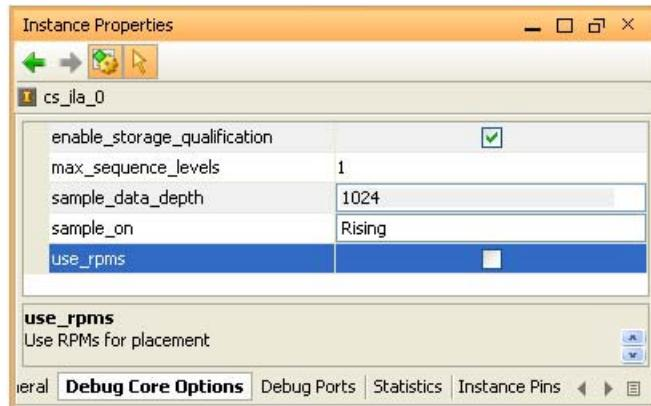

Figure 12-7: Instance Properties - Debug Core
2. In the Instance Properties view, select **Debug Core Options** to view and configure the debug core parameters as shown in Figure 12-7, page 396.